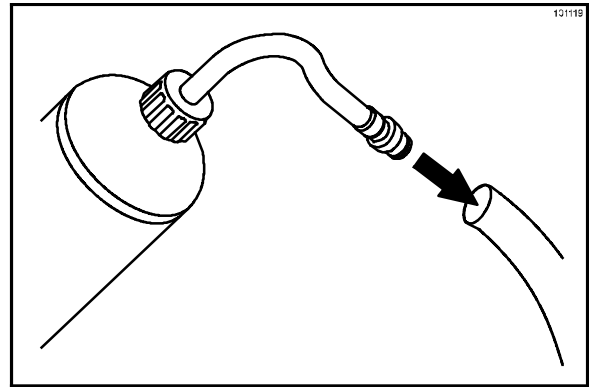

Figure 156
- Insert the bottle adaptor into the other end of the cleaning tube. (See Figure 156.)